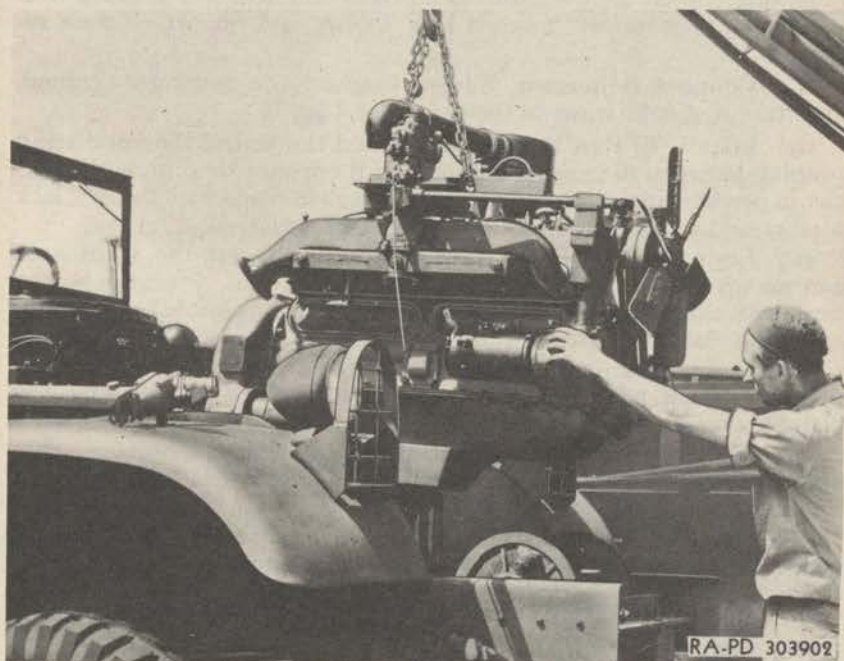

Figure 59—Installing Engine in Chassis
- z. **Lift Engine from Chassis.** Attach a lifting bar to the water manifold openings in the cylinder head and run a chain over the bar so that a lift hook may be attached. The assembly will have to be worked forward at the same time it is lifted, in order that the rear of the engine will clear the cowl. A wrecker truck crane can be readily used for removing the engine (fig. 59).
- b. **Install Engine in Chassis.** Attach a lifting bar to the water manifold openings in the cylinder head, and run a chain over the bar so a lift hook may be attached. Lift the engine assembly into position above the engine compartment and then lower it into place, at the same time working it back to get the rear end of the block and the bell housing under the cowl, and to line up the mounting brackets with the mounting insulators. Then lower the assembly into place until mounting brackets on the engine just touch the insulators, and then shift the engine assembly around to line up the holes in the engine mounting brackets, insulators and the frame mounting pads, and install mounting bolts. Then lower the engine and take all the weight off the hoist. Disconnect the hoist from the lifting bar and remove the lifting bar (fig. 59).